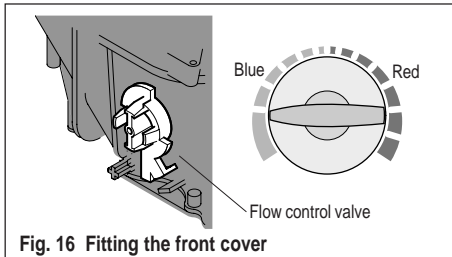

Fig. 16 Fitting the front cover
5.8.4 Turn the flow control valve fully anticlockwise, i.e. with the lever in the down position see fig. 16.
5.8.7 Refit the flow control knob. To ensure correct location, the finger grip must be horizontal and pointing to the cold position (9 o'clock), see fig. 16. Ensure the flow control knob is pushed fully home and 'snaps' into position.